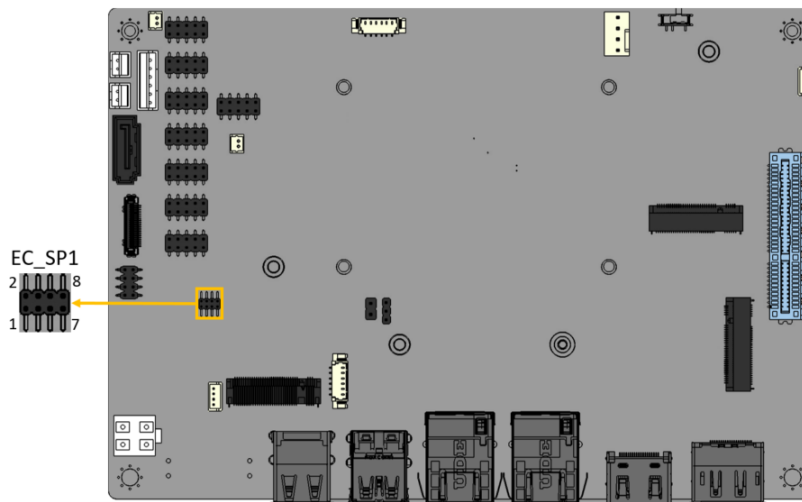

Figure 3-22: Flash EC ROM Connector Location
- CN Location:** See **Figure 3-22**